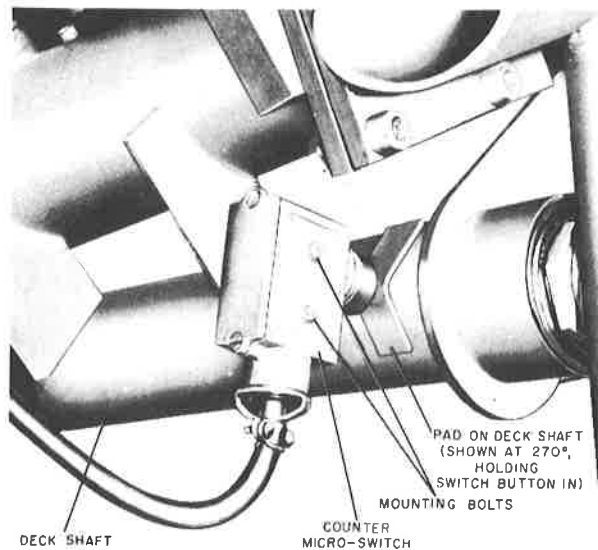

Figure 99. Counter Microswitch Adjustment
47. COUNTER MICROSWITCH ADJUSTMENT. (FIGURE 99)